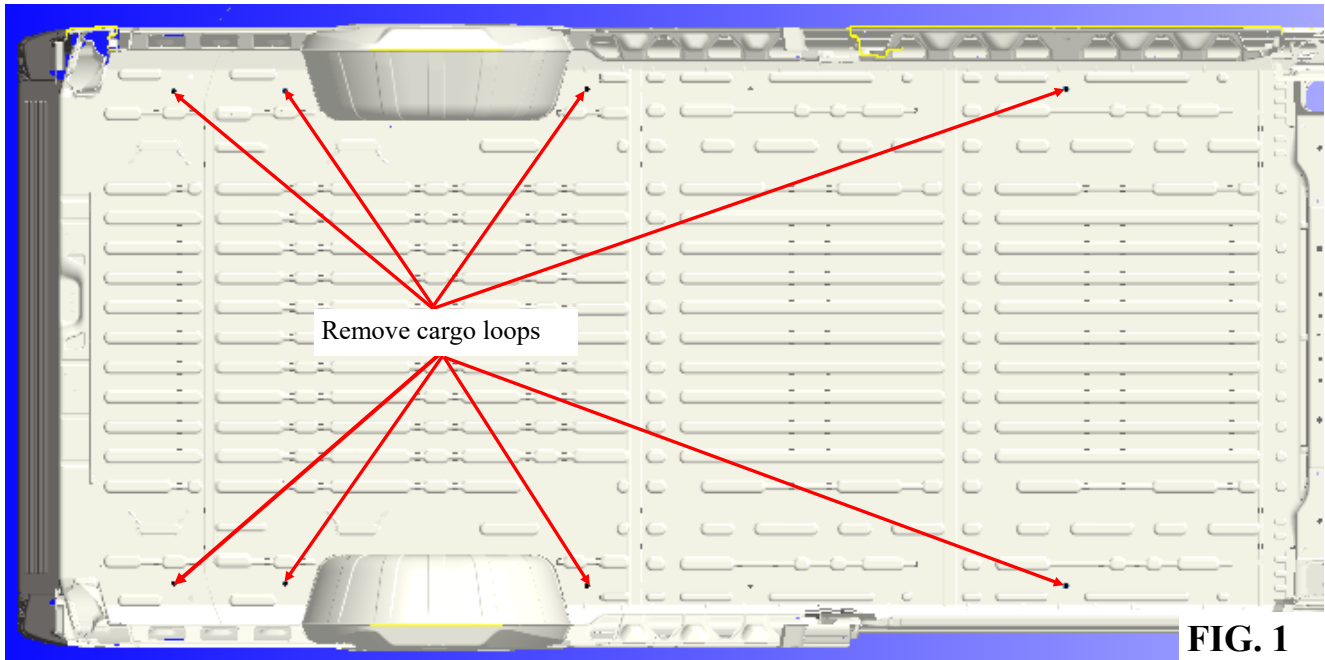

FIG. 1
6.1 Remove the eight rear cargo loops. (FIG. 1)